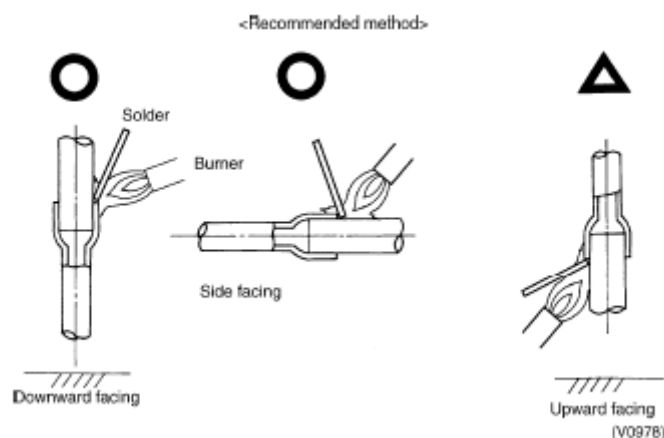

Figure 3-1-3
- ◆ Upward or longitudinal welding joint method is usually applied to the welding of pipelines. The welding method that mouth of pipe is downward (face-down welding) should be avoided as far as possible, because such method is prone to welding defects and even would cause leakage, as shown in Figure 3-1-3.